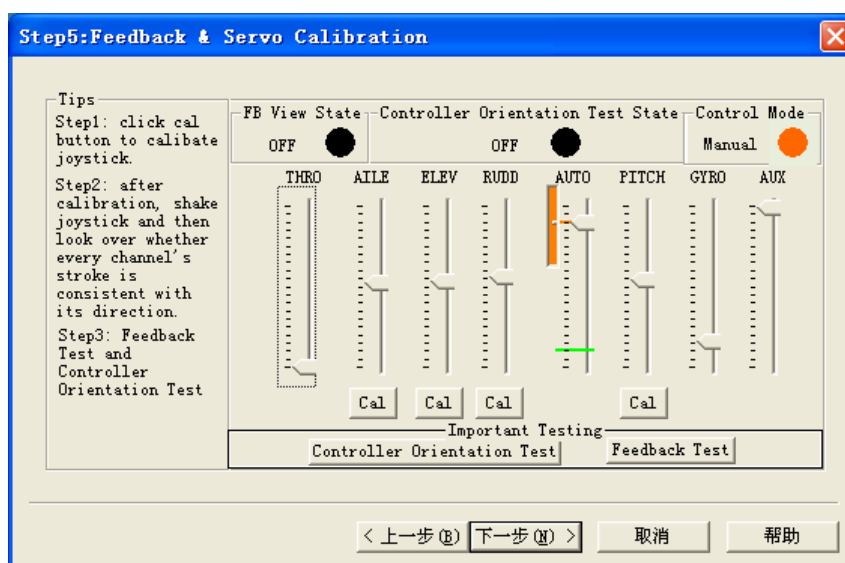

Figure 3. 38
- a) Enter the interface of [Feedback & Servo Calibration] (Figure 3. 38), and click the “Cal” buttons of AILE、ELEV、RUDD、PITCH orderly.